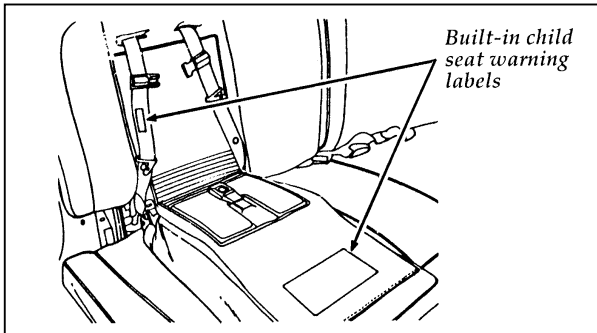

Figure 4: Child seat information and warnings
4. Grasp the shoulder portion of the belt and pull downward until all of the belt is extracted and a click is heard. At this time, the retractor is in the automatic locking mode (child seat restraint mode). See Figure 4.
4. Read the information and warnings on the child seat cushion and shoulder safety belt. Refer to Figure 4. Check the child's size, weight and age to be sure the child is not too small or too large for the child seat.